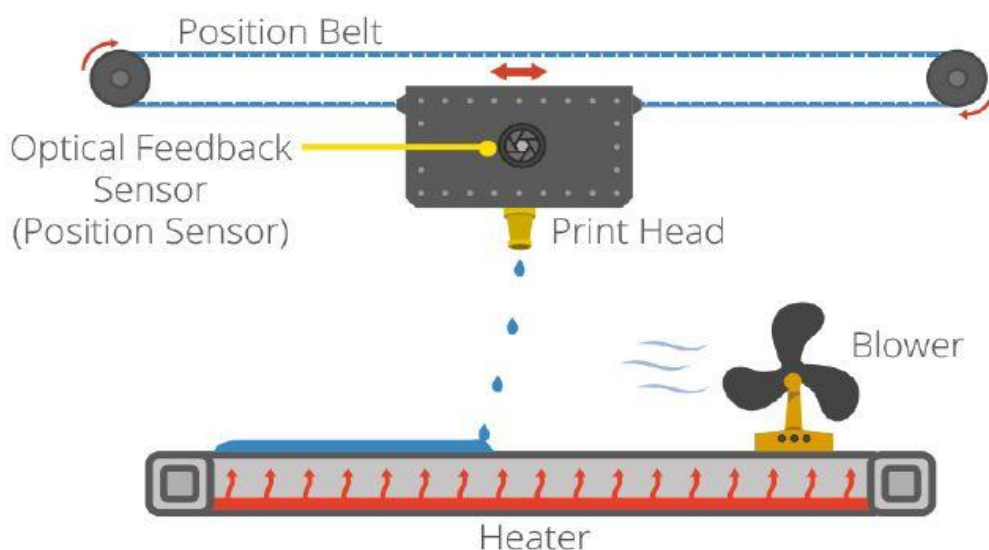

Fig 4.15 Material Jetting Method of 3D Printing
2. **Material Jetting:** It is a 3D printing process whereby the actual build materials (in liquid or molten state) are selectively jetted through multiple jet heads (with others simultaneously jetting support materials). However, the materials tend to be liquid photopolymers, which are cured with a pass of UV light as each layer is deposited. The basic process is shown in Fig. 4.15.